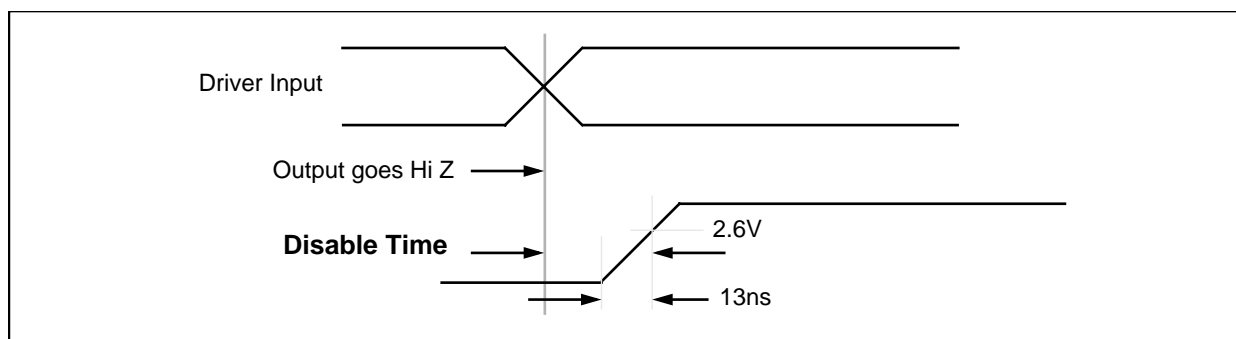

Figure 13-2: Disable times specification
- 4 See Figure 13-2: Disable times specification on page 13-3.